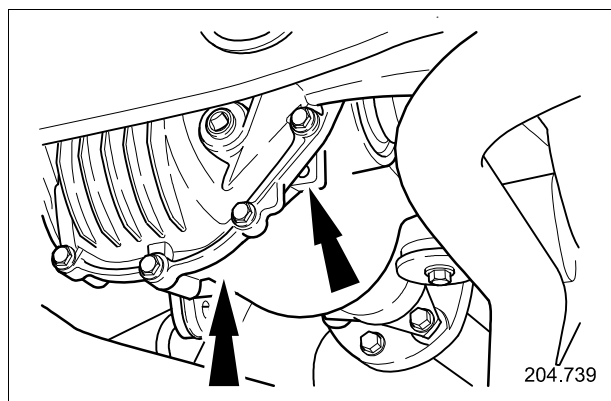

Fig. 5
**Note:** Jack under the center of the rear drive axle/differential to install the left-side rear bushing lower void insert. Jack under the right-hand side lug to install the right-side rear bushing lower void insert (see Fig. 5).